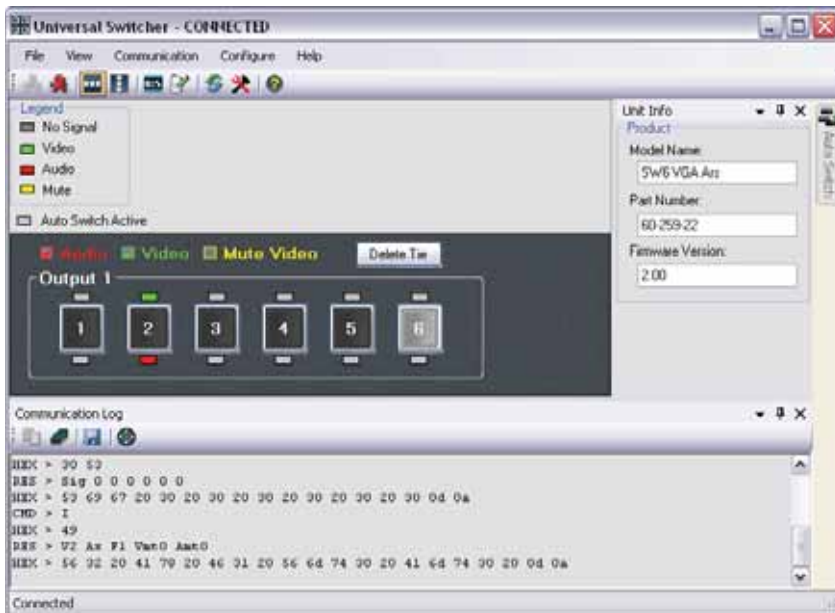

Figure 4-4 — Universal Switcher Control program window
- The Extron Universal Switcher Control Program window (figure 4-4) displays the input signal status for each input (signal present or not present) and the selected input.
In figure 4-4: